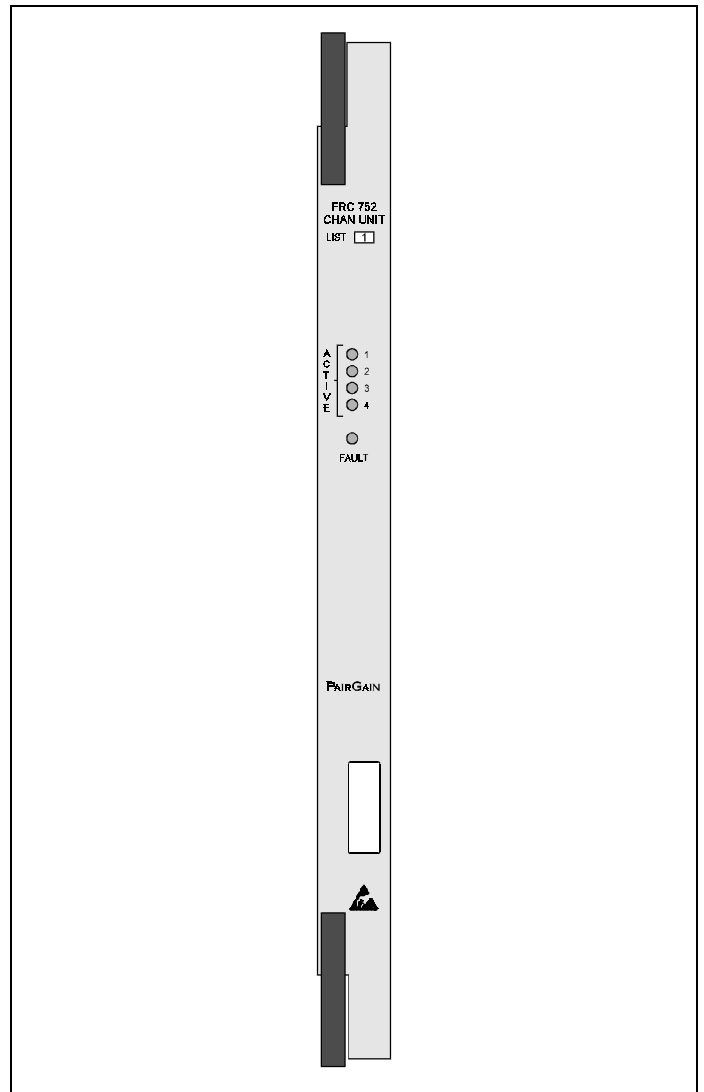

Figure 1. FRC-752 Channel Unit, List 1, Front Panel. The PairGain FRC-752 provides four POTS interfaces between a PG-Flex Remote Terminal and the subscriber.
7.01 The front panel of the FLC-752 Channel Unit contains the following indicators (see Figure 1):